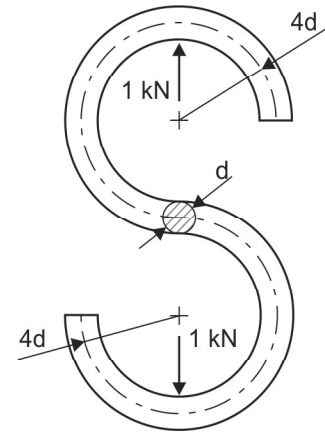

Fig. M1.16
30. A link of S-shape made of steel bar is shown in Fig. M1.16. It is made of steel 45C8 with $\sigma_{yt} = 380$ MPa and factor of safety is 4.5. Calculate the dimensions of the link.